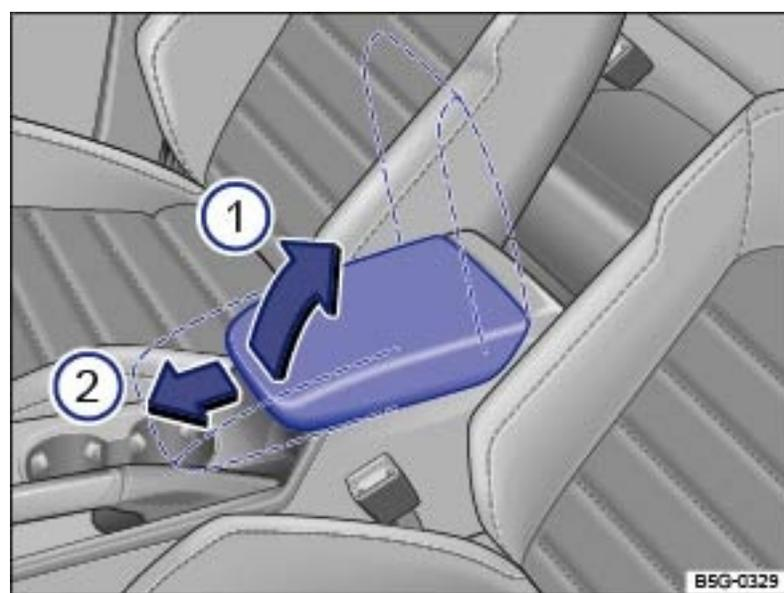

Fig. 49 Front center armrest.
To raise the center armrest, push the release button, pull the armrest up, and latch upward in the direction of the arrow → Fig. 49 ① .